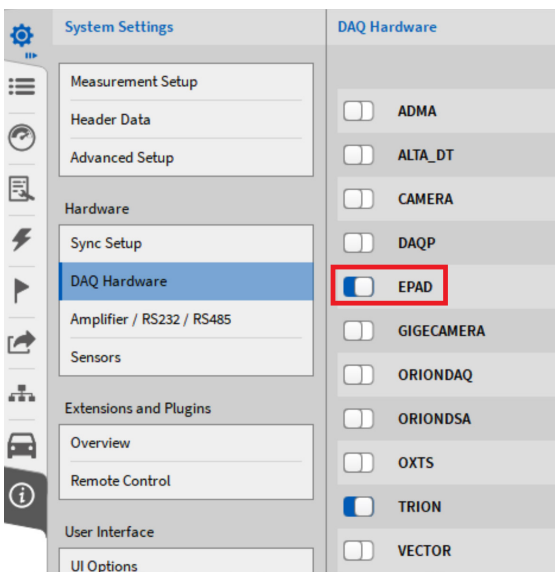

Fig. 11: Enabling the EPAD series in the DAQ hardware setup
4. Select the *DAQ Hardware* section and ensure the slider button next to the XR series is activated (Fig. 11). Changes take effect on application restart.